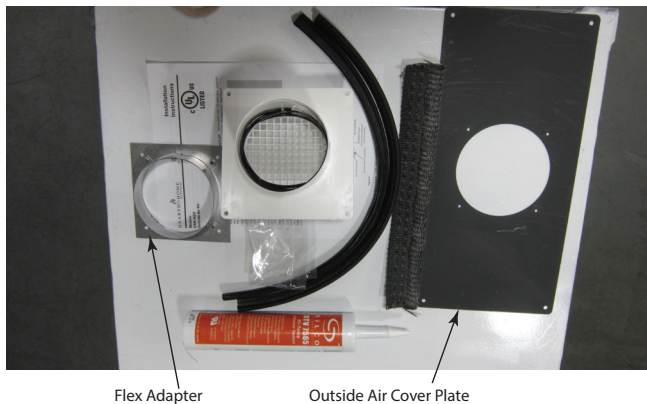

Figure 5.9
Included in kit: Termination cap, (2) wire ties, pedestal coverplate, flex adapter, and fasteners. (2) 19-3/4" rubber gasket, 12" piece of rope gasket, and silicone. See Figure 5.9.